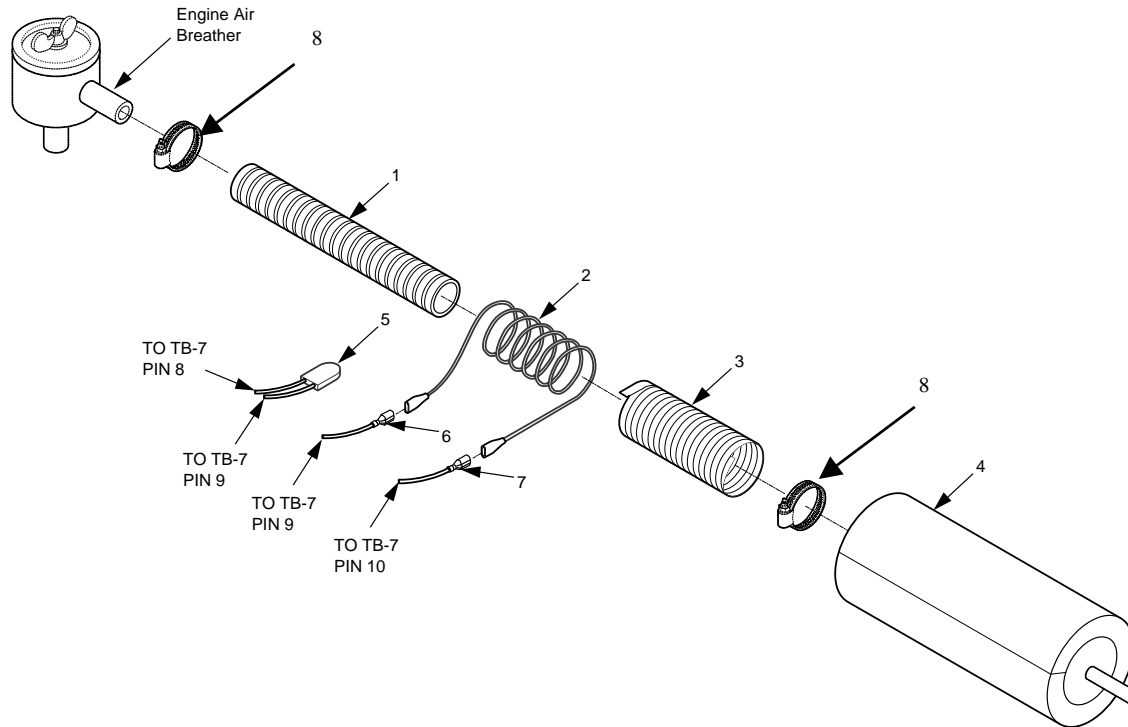

Figure 4-42. Breather Tube Heater Assembly
11. Remove insulator (4), Figure 4-42, tape, foil (3), rope heater (2), electrical leads (6 and 7), clamps (8), and metallic hose (1) from heater rope to TB-7 in output box, thermostat assembly (5) on TB-7, and heater wiring harness from generator.